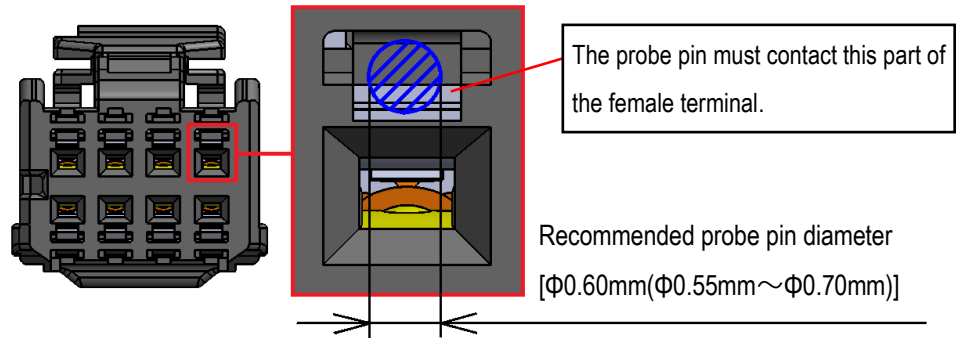

Fig.48 Conductivity test for female terminals (contacts)
② To test electrical conductivity of female connector, place a probe pin at prescribed point (0.5N MAX.) on outside of the female terminal. (See Fig. 48)
③ Do not insert a probe pin into female terminal, as this may damage the terminal spring.